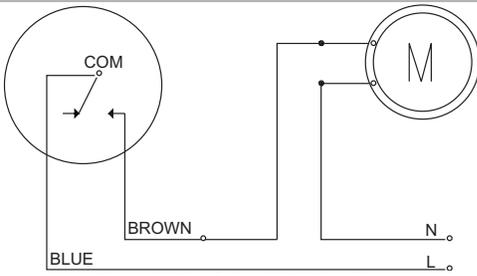

Figure 2-Emptying (NO) Function
The Series FSW2 features a variety of different cable options. One of these options includes the selection between SPST and SPDT. SPST, single pole single throw, allows a single operating function with the choice of operation on increasing level (NC/filling) or operation on decreasing level (NO/ emptying), depending on the model selection. SPDT, single pole double throw allows for operation of both increasing and decreasing level, depending on the connections made between the terminals of the micro-switch and the cable. SPDT, which is a four-conductor cable (ground option) or a three-conductor cable (without ground option), has one lead that is common, one that is normally open (NO), and the other that is normally closed (NC), for the proper connections of these conductors please refer to the wiring diagrams in Figures 2 to 9.